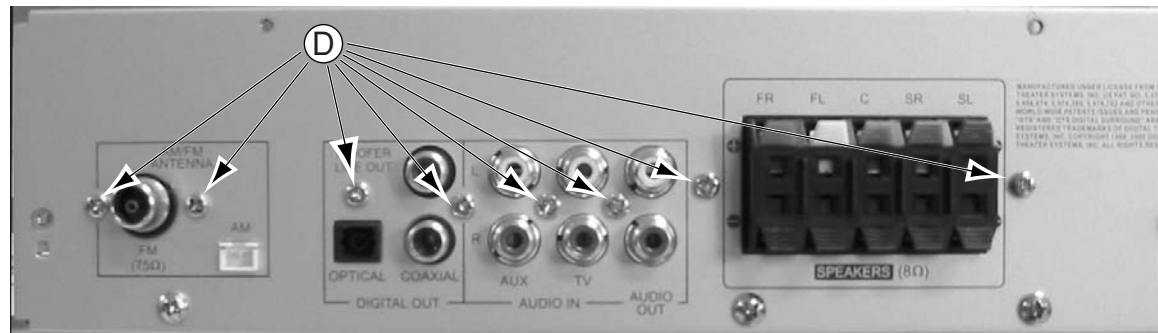

Figure 7
- 1) Loosen 8 screw " D " at the back panel as shown in figure 7.